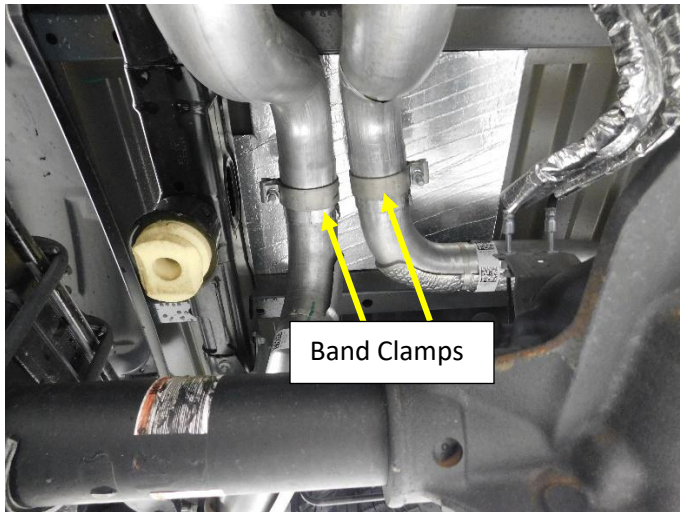

Figure.1
2. Loosen the 15mm Nuts on the tail pipe band clamps directly over the rear axle. **Fig.1**